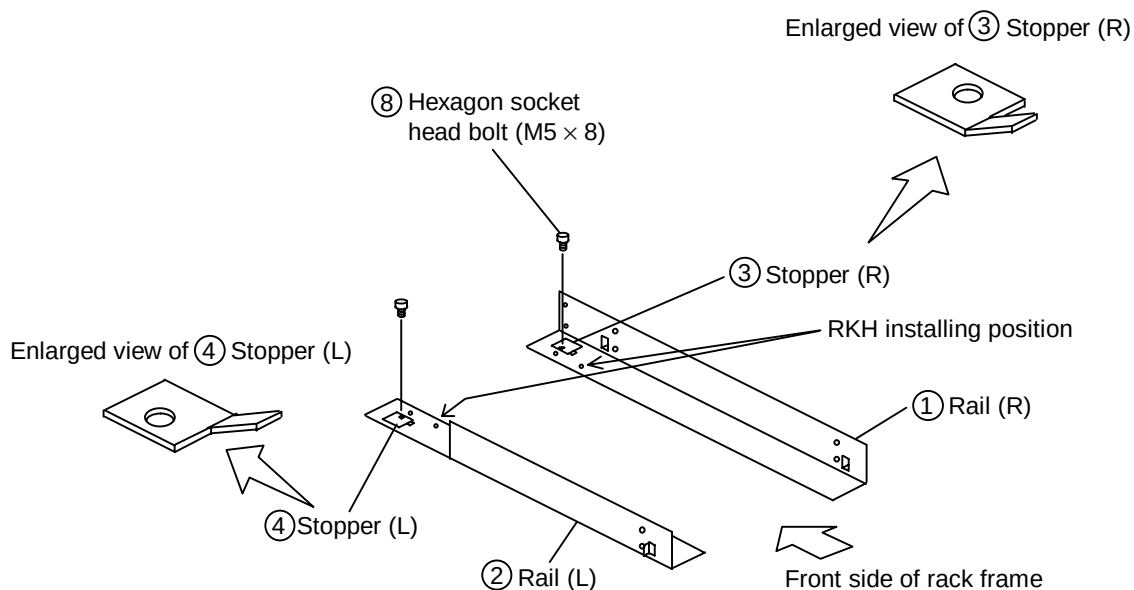

Figure 3.4.2 Temporary Attachment of the Stopper
3.4.3 Installing the rails (See Figure 3.4.2 and 3.4.3.)
- (1) Temporarily secure the ③ Stopper (R) to the ① Rail (R) using ⑧ Hexagon socket head bolts (M5 × 8). (See Figure 3.4.2.)